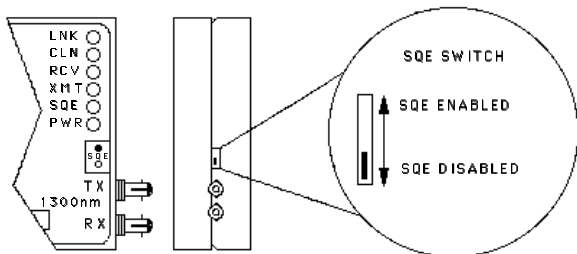

Figure 3-1. SQE Switch
The Signal Quality Error (SQE) Test Switch allows you to enable or disable the SQE (“heartbeat”) test function. The SQE switch is the two position switch on the right side of the FOT-F3, located above the fiber optic ports. See Figure 3-1. The SQE test function is disabled when the transceiver is shipped.
- To disable the SQE test function, set the switch (Fig. 3-1) towards the optical ports to the off (o) setting.
- To enable the SQE test function, set the switch (Fig. 3-1) away from the optical ports to the on (●) setting on the label.